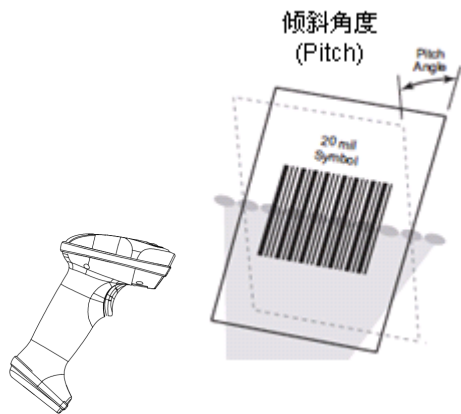

Fig. 1-11
- ◇ Pitch :  $\pm 60^\circ$ ,  $0^\circ$  Roll and  $0^\circ$  Skew (Fig. 1-11)